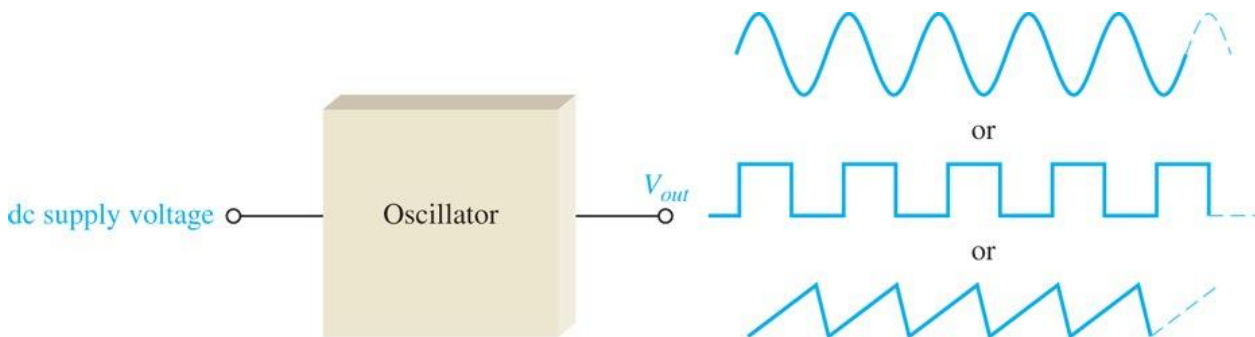

Figure 1 The basic oscillator concept showing three common types of output wave-forms: sine wave, square wave, and sawtooth.
- A basic oscillator is shown in Figure 1.